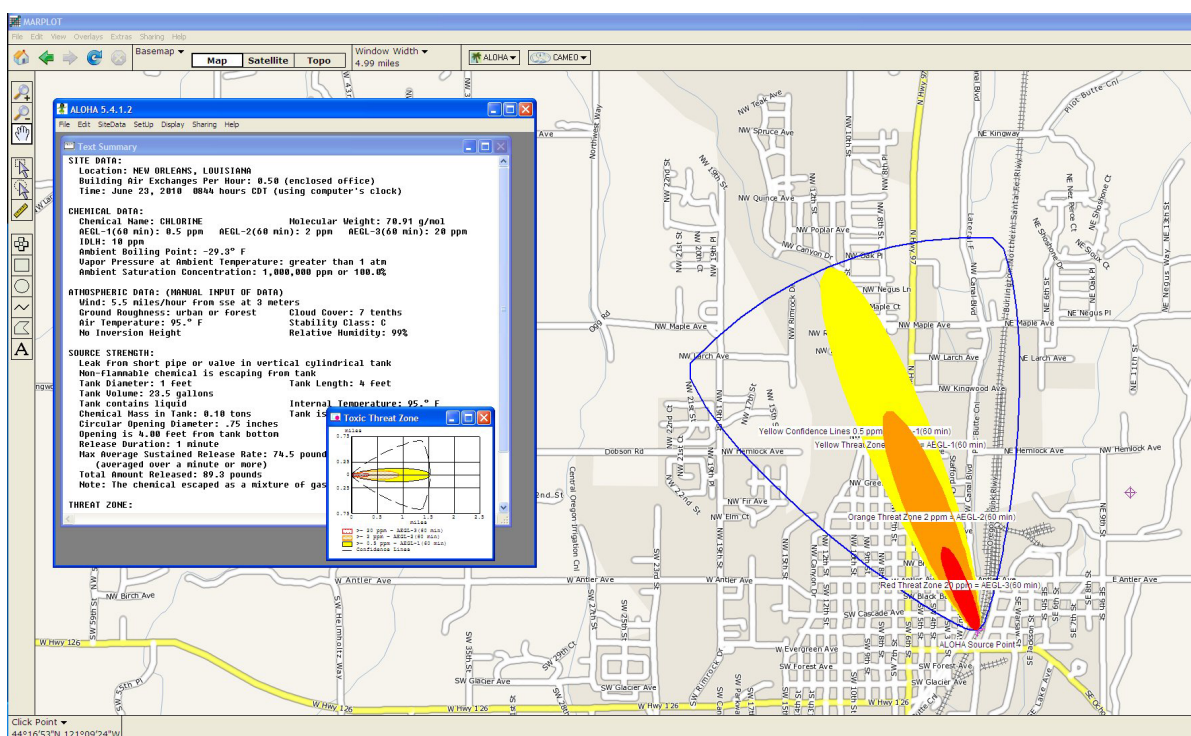

Figure 5 - ALOHA® Plume
10. Select the [Sharing] drop-down menu to plot the plume onto a MARPLOT® (or other) map. As weather conditions change, the plume size and position will change, shortly after the WEATHERPAK® provides updated data. Please Note: MARPLOT® software requires that the ALOHA® window overlay the map window in order for the map-plume to update automatically (See Fig. 5).